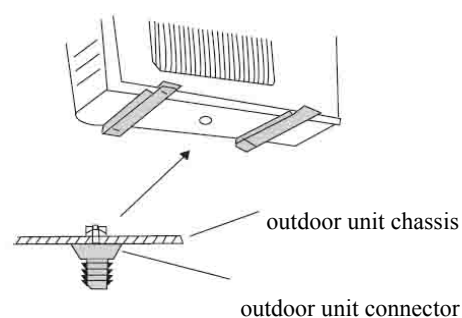

Fig 11-11
- Insert the outdoor drainage connector as shown in Fig.11-11 to the $\Phi 25$ hole at the chassis. Then, connect the drainage hose to the water drainage port so as to drain the condensed water and defrost water to a proper location.